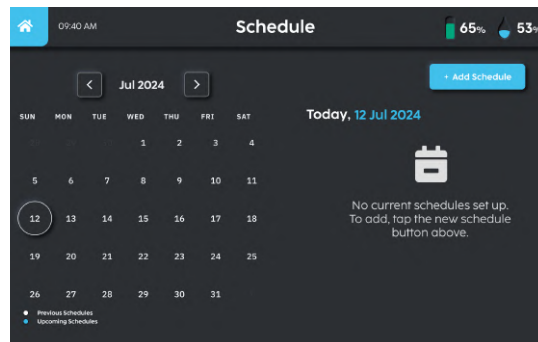

FIGURE 6-27
1. Click 'Add Schedule' to start adding the schedule (**Fig. 6-27**).